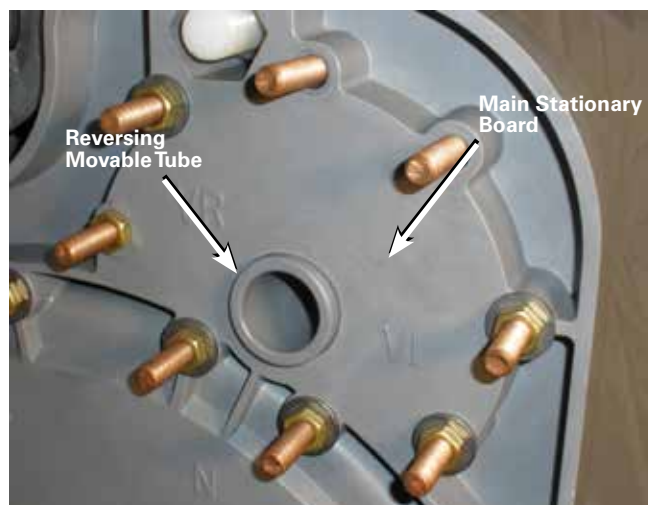

Figure 16. Aligning with main contact board.
16. Slide the stationary and movable contact assembly toward the contact panel. Align the movable contact assembly so that the reversing movable tube aligns with and goes through the hole in the contact panel. At this point the stationary contact and movable contact should be fully engaged with the contact panel. See Figure 16.